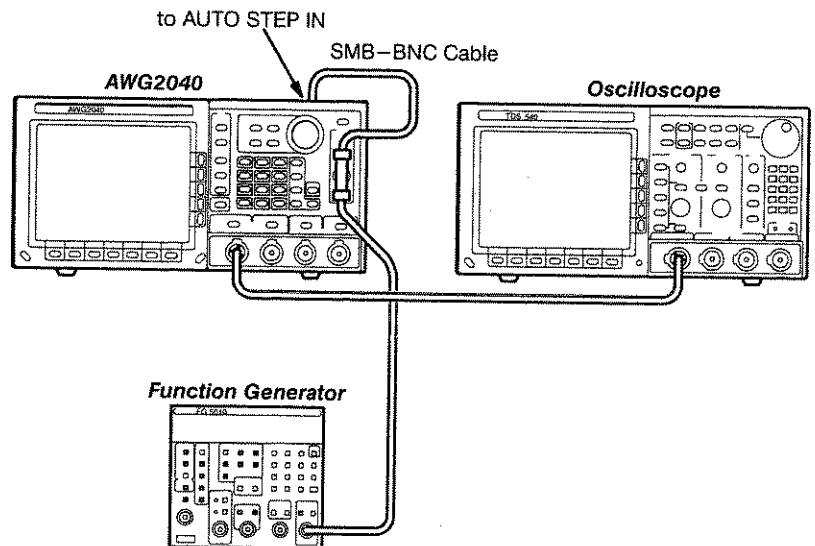

Figure E-10: Autostep Mode Initial Test Hookup
- Connect the AWG2040 rear-panel AUTO STEP IN connector through a coaxial cable (SMB–BNC connector) to the adapter on the AWG2040 TRIGGER INPUT connector (see Figure E-10).